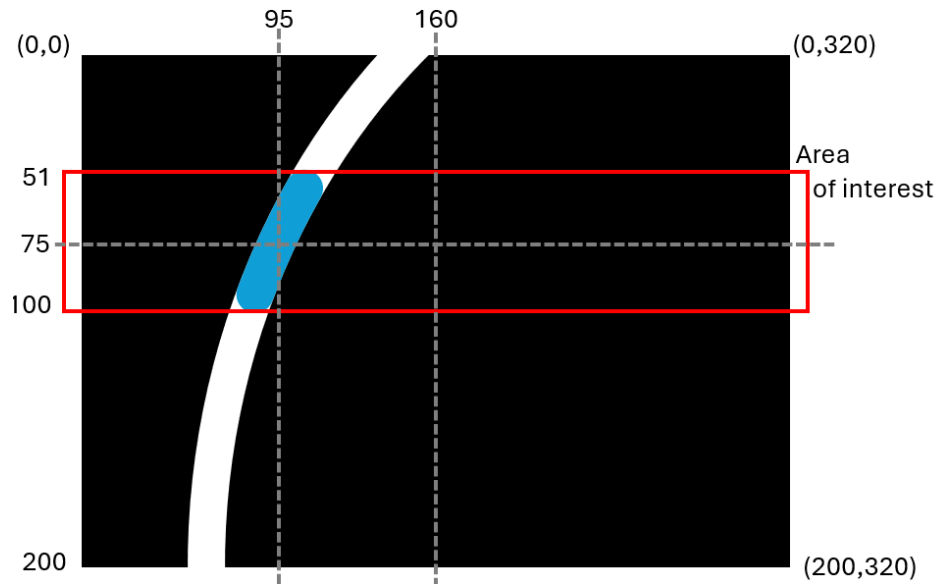

Figure 3. Image with the blob of interest in blue.
6. Using the input parameter *col*, find the *error* representing the difference between the center of the line and the center of the image, which you want to minimize. Figure 3 will help you visualize this.
7. Using the variable *angle*, find the error angle of the blob center based on the bottom center of the image. Use Figure 3 as a reference to find the correct geometric function to use.